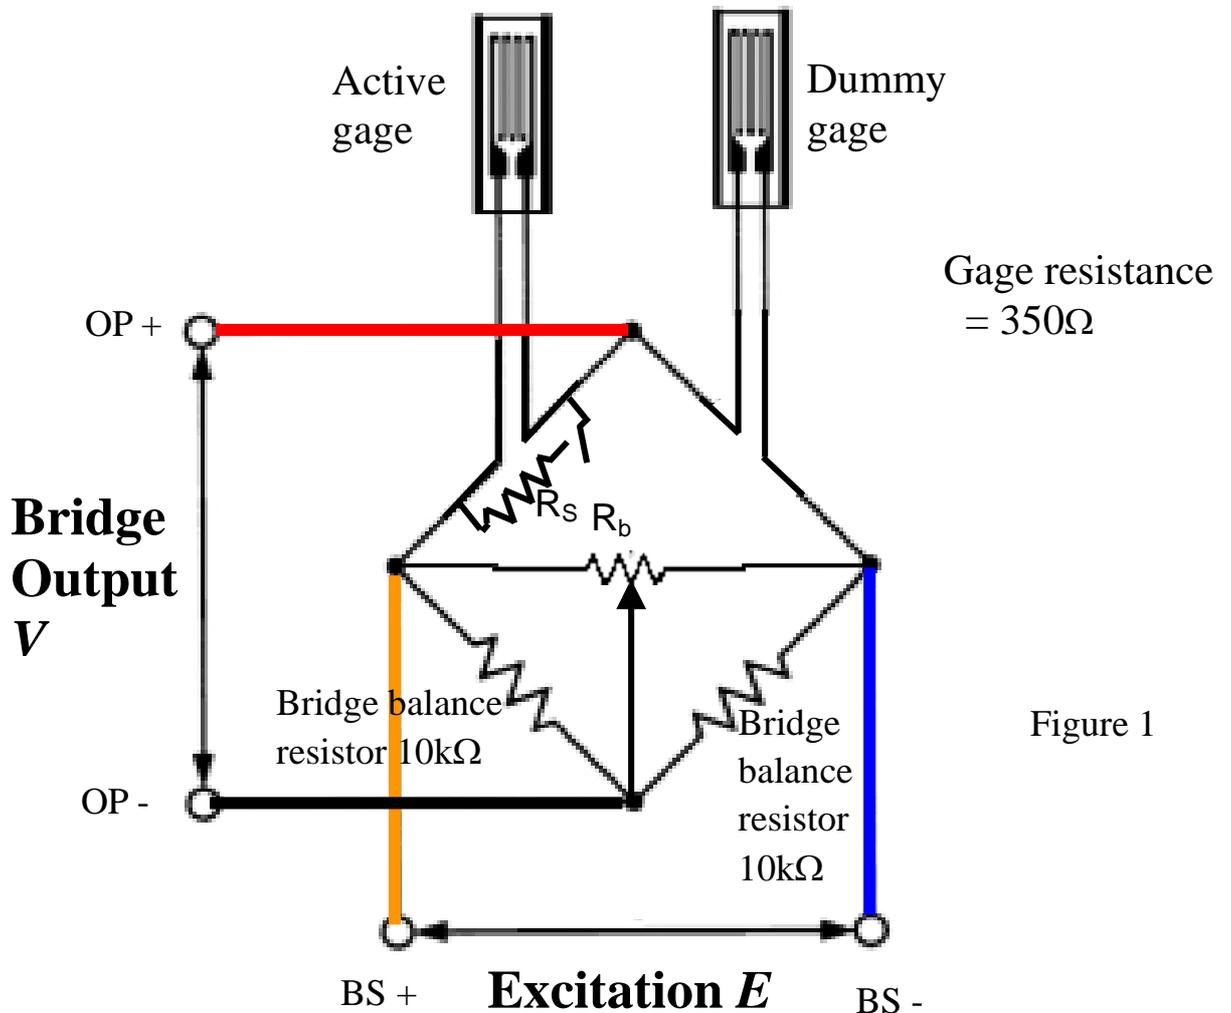
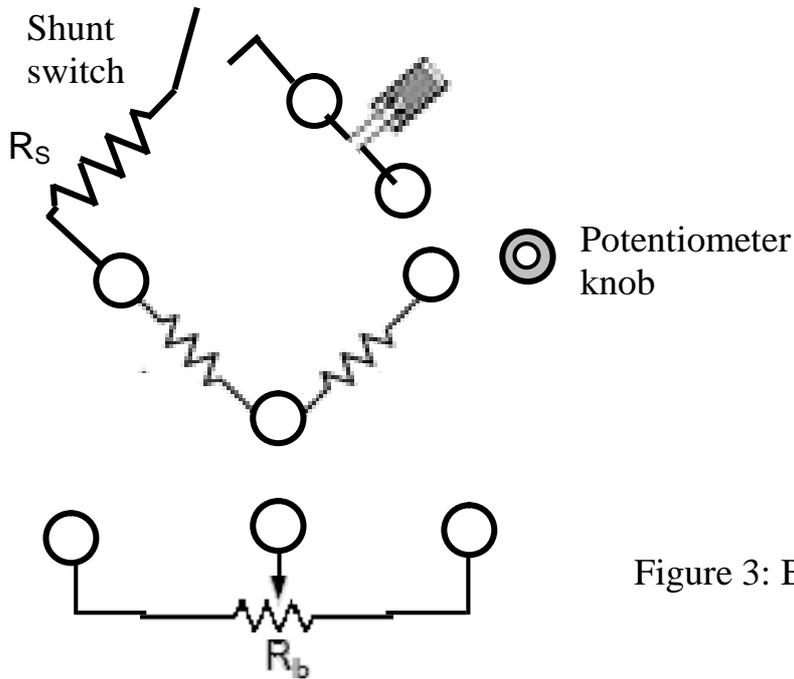
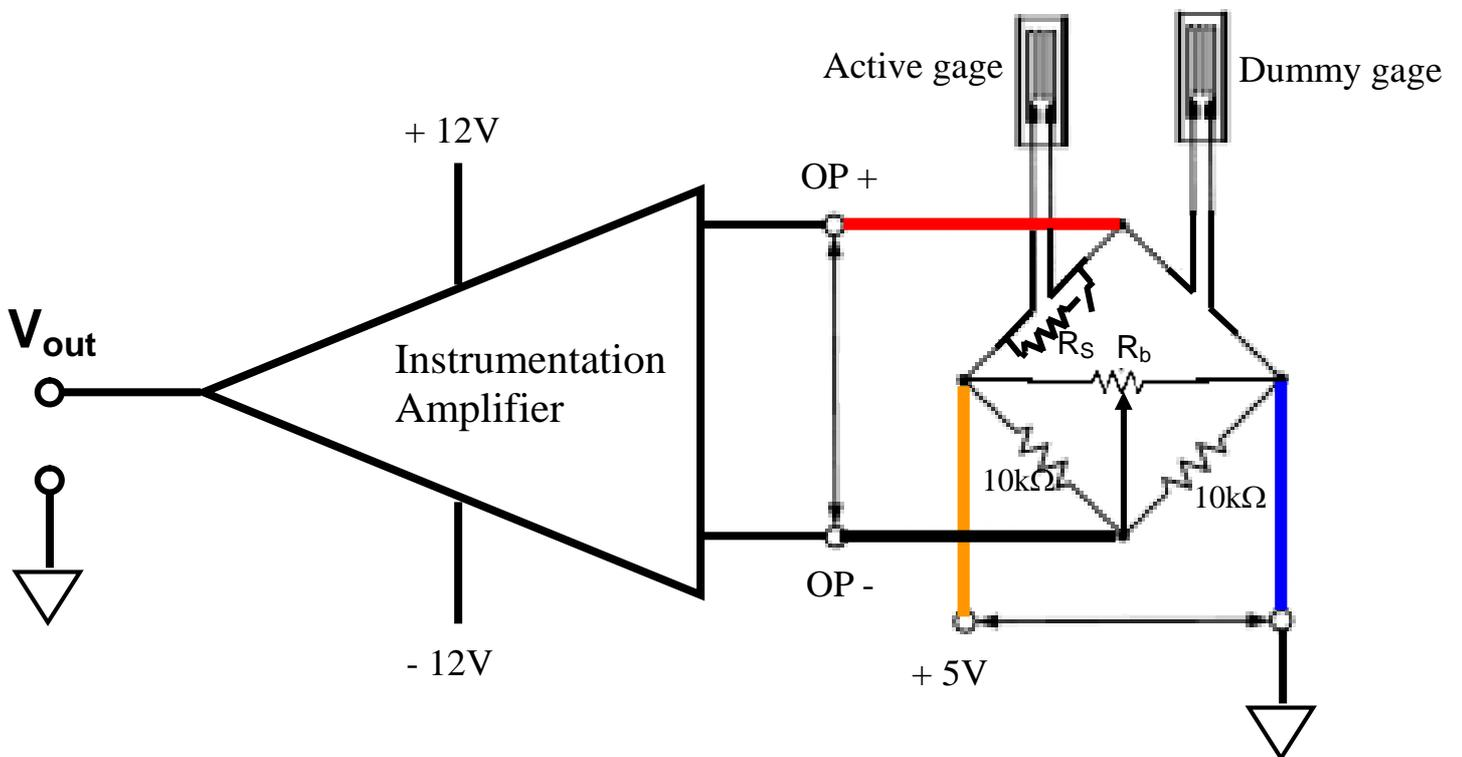

Figure 1
Figure 3: Bridge completion box layout.
Figure 4: Circuit for strain read out.
4. What is the use of R_b in the bridge circuit in Figure 1? Please briefly explain the underlying principle.
5. What is the use of R_s in the bridge circuit in Figure 1? Please briefly explain the underlying principle.
1. The gage you just stuck is the active gage. A dummy gage, two bridge balance resistors, R_b and R_s are provided in a bridge completion box. Layout of the box is shown in figure 3. Use these to build up the Wheatstone bridge as shown in figure 1 and connect the bridge outputs to your instrumentation amplifier (IA) inputs as in fig.4 . Use Channel 3 of the power supply for bridge excitation. Remember to connect the ground of Channel 3 to the ground of the IA